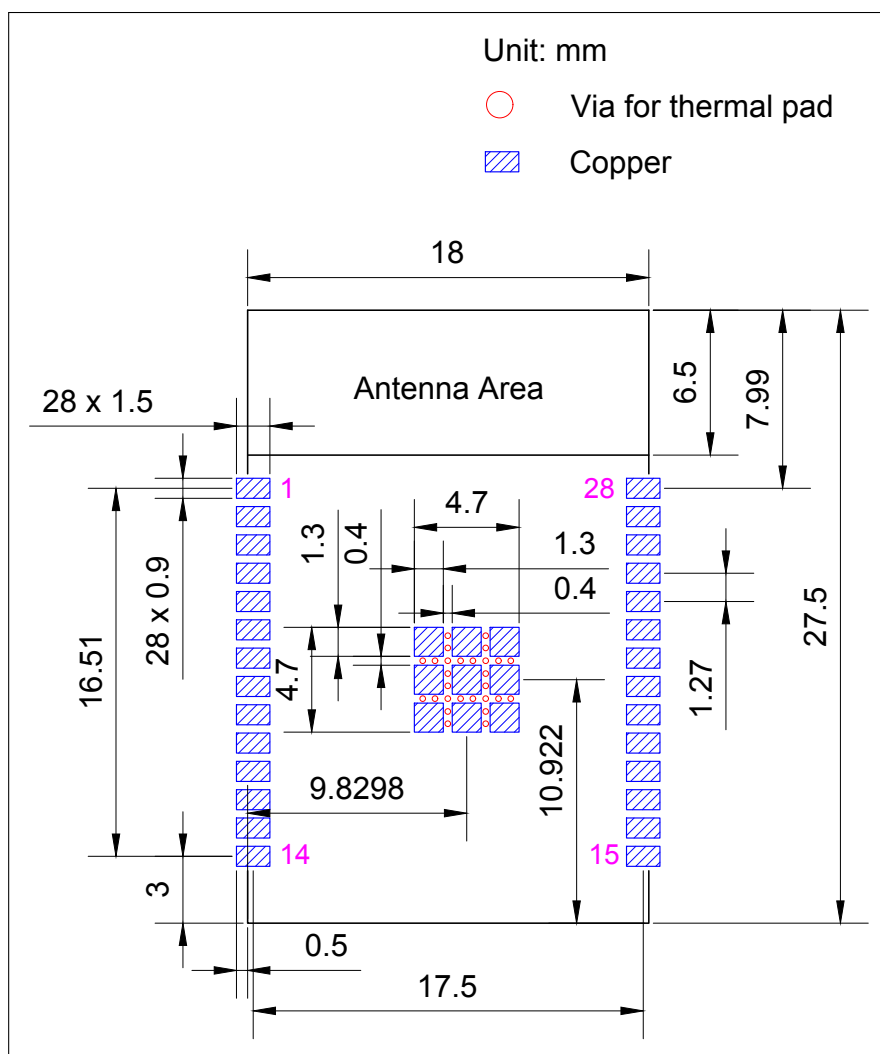
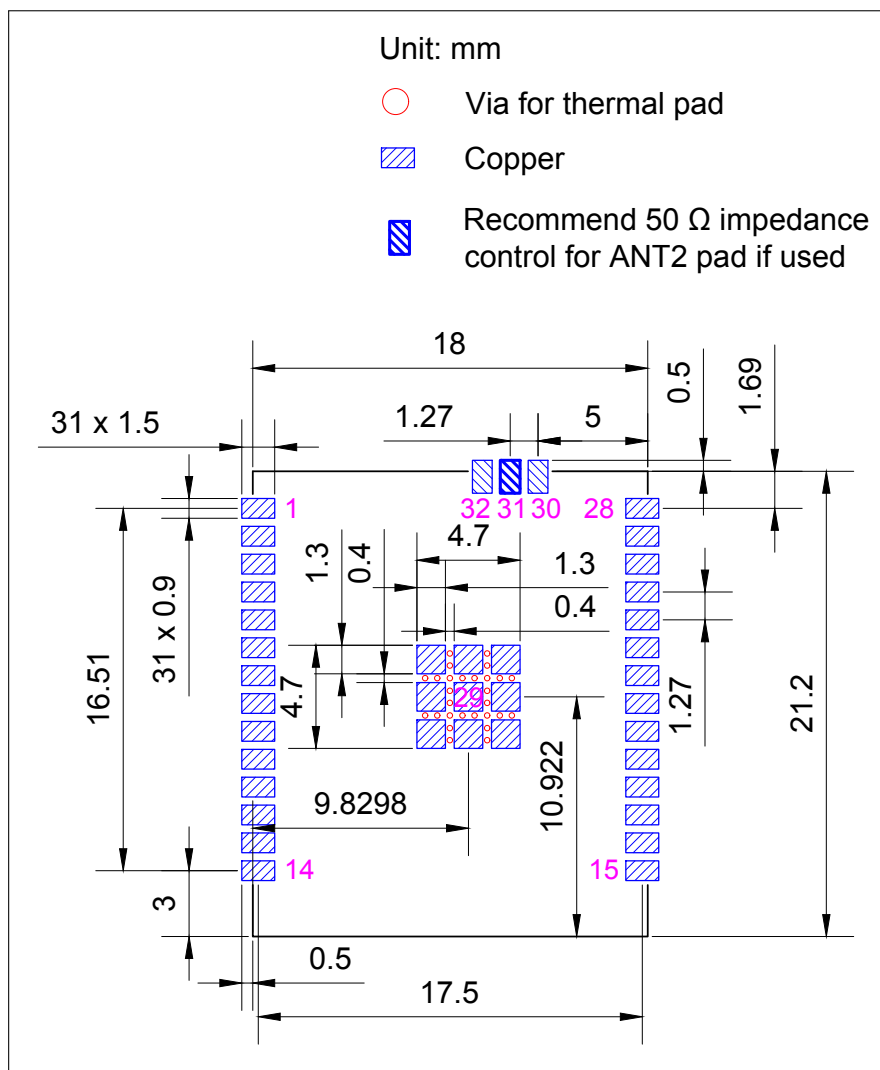

Figure 11-1. ESP32-C5-WROOM-1 PCB Land Pattern
Figure 11-2. ESP32-C5-WROOM-1U PCB Land Pattern
- Figures for recommended PCB land patterns with all the dimensions needed for PCB design. See Figure 11-1 *ESP32-C5-WROOM-1 PCB Land Pattern* and Figure 11-2 *ESP32-C5-WROOM-1U PCB Land Pattern*.
- Source files of recommended PCB land patterns to measure dimensions not covered in Figure 11-1. You can view the source files for ESP32-C5-WROOM-1 and ESP32-C5-WROOM-1U with Autodesk Viewer.